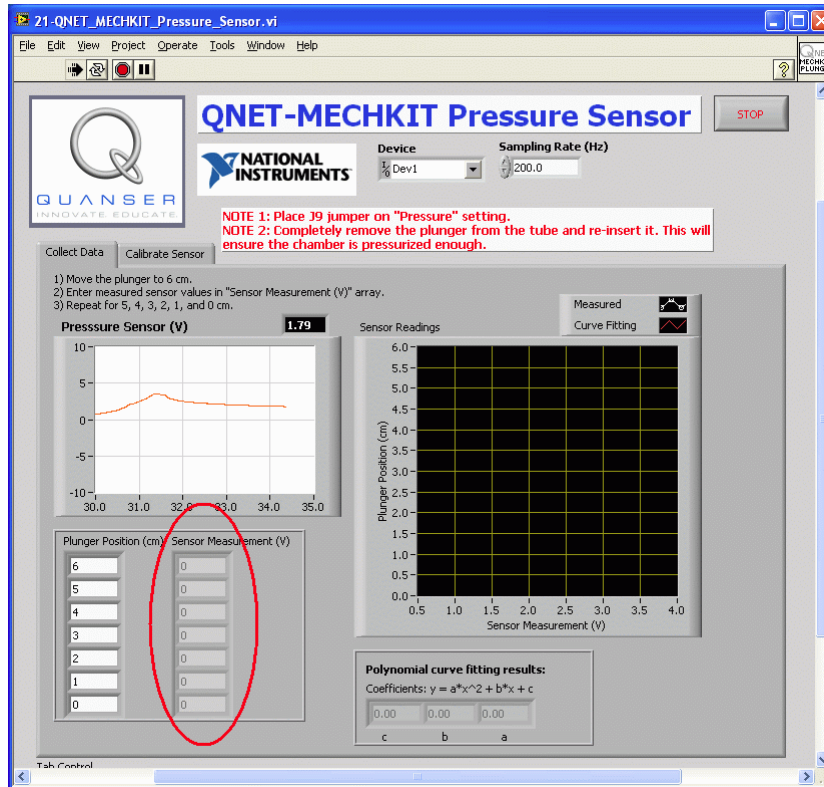

Figure 4.2: Collecting pressure data
4. Push the plunger up to the 6 cm marked on the MECHKIT board and measure the resulting voltage using the *Pressure (V)* scope (or the digital display).
5. Enter the result in the *Sensor Measurement (V)* array, as indicated in Figure 4.2.